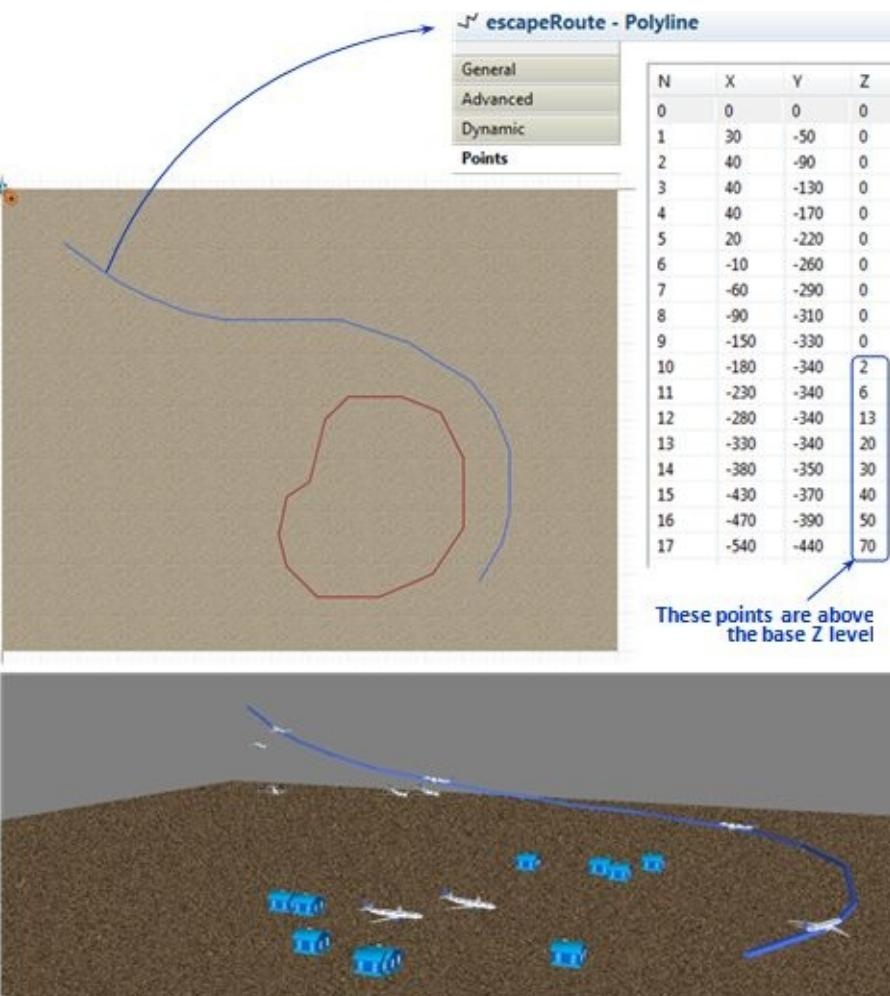

Figure 3.29 Bombers return to base using a route defined by a polyline
28. Open the editor of *Main* and draw a polyline, as shown in Figure 3.29. This time you can use the polyline object from the **3D** palette and not from the **Presentation** palette, because it has the **Show in 3D scene** property already selected.
30. Open the **Points** page of the polyline and modify the individual Z coordinates of the points approximately, as shown in Figure 3.29. The idea is to have the initial section of the polyline at about the same altitude as the bomber attack altitude (20 pixels = 2 km is the base Z), and then gradually raise it to 9 km (base 20 + 70, which is Z of the last point).